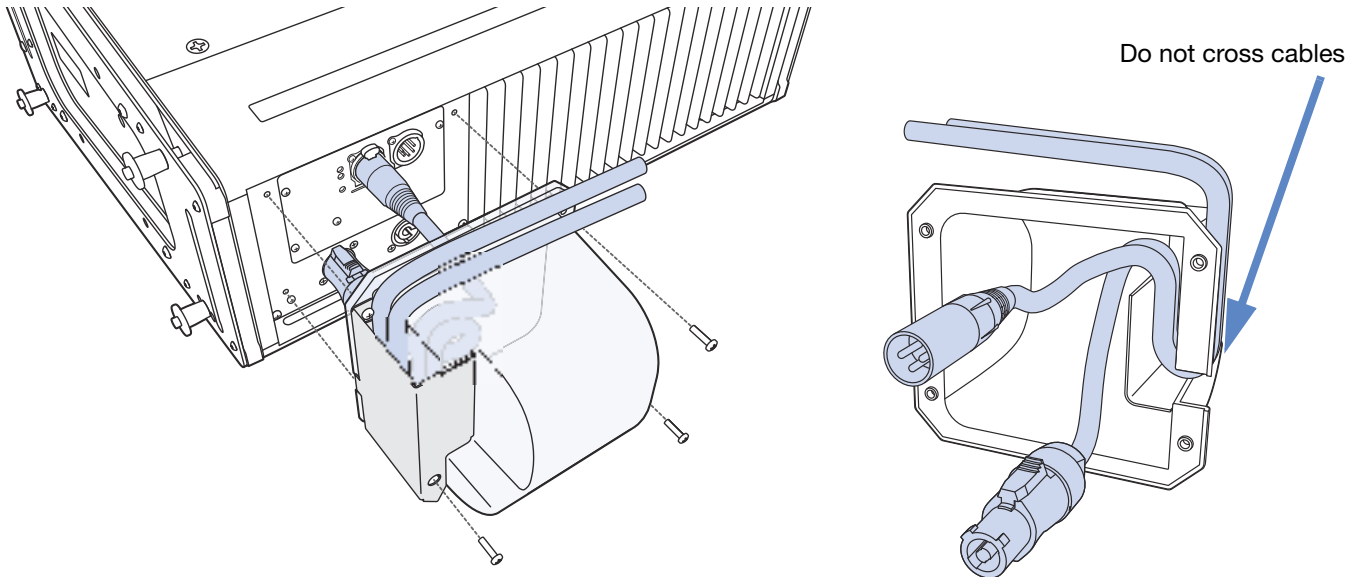

Figure 48: LINA with Rain Hood and UW Shield (left) and Inside Rain Hood view of Cable Routing over Inner Wall (right)
The LINA rigid removable rain hood plus UW rain hood shield are easily attached and removed with the included four screws (Figure 48).
2. Carefully route the cables, so that they wrap over and down the inner rain hood wall (see Figure 48, right), and exit through the slot.
CAUTION: There is only one proper loudspeaker orientation once the rainhood is installed. See Figure 48.